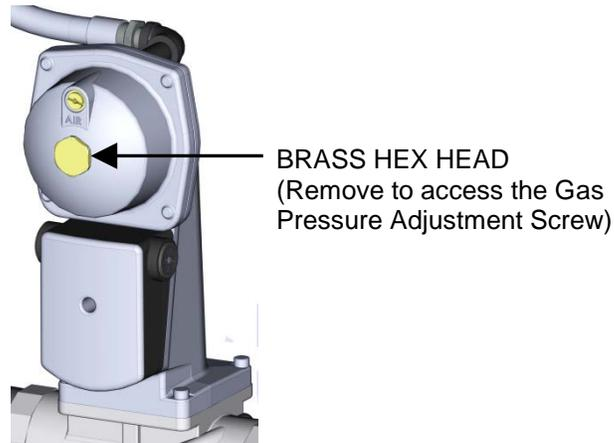

Figure 4-5: Gas Pressure Adjustment Screw Location
9. Next, verify that the gas pressure downstream of the SSOV is set to **3.8" W.C. ± 0.4" W.C.** If gas pressure adjustment is required, remove the brass hex nut on the SSOV actuator to access the gas pressure adjustment screw (Figure 4-5). Make gas pressure adjustments using a flat-tip screwdriver to obtain a gas pressure range of **3.8" W.C. ± 0.4" W.C.**
- If the oxygen level is not within the required tolerance, the gas pressure on the downstream side of the SSOV must be adjusted using the gas pressure adjustment screw on the SSOV (Figure 4-5). Slowly rotate the gas pressure adjustment (approximately 1/4-turn increments). Allow the combustion analyzer to stabilize following each adjustment. Clockwise rotation reduces the oxygen level, while counterclockwise rotation increases the oxygen level.